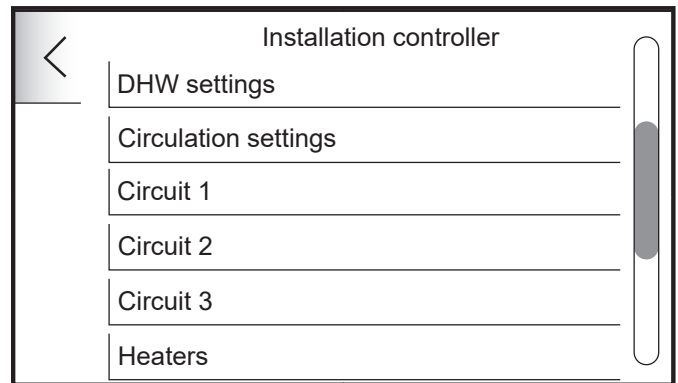

Figure 7-12: Installation controller menu
- Swiping the Touchscreen display scroll down to the desired circuit and select by tapping. (Refer to Figure 7-12).
3. Swiping the Touchscreen display scroll down to the desired circuit and select by tapping. (Refer to Figure 7-12).